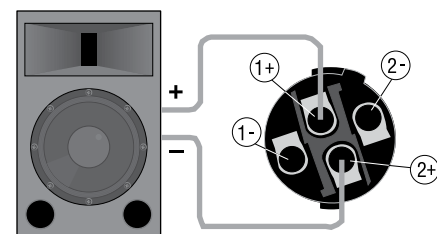

Figure 2.14
1) Wire the speaker across the red binding post of each channel (Figure 2.14). Do not use the black binding posts when operating in Bridge-Mono mode.
2) Wire the speaker only to the top Speakon® connector as shown in Table 3 and Figure 2.14.